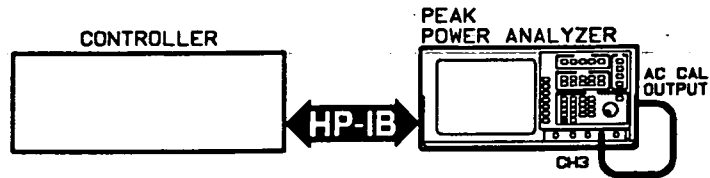

Figure 2-16. Channel 3 Delay Calibration Setup
1. Set the address of the Peak Power Analyzer to seven (7) using the following steps:
5. Connect the equipment as described on the screen and shown in figure 2-16.